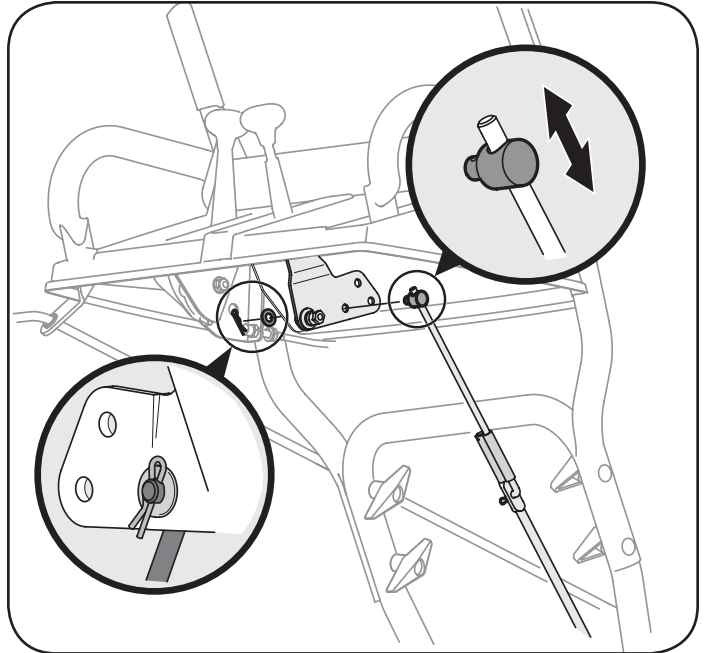

Figure 14
If the full range of speeds (forward and reverse) cannot be achieved, refer to Figure 14 and adjust the shift rod as follows:
1. Looking underneath the handle panel, note which of the three holes in the shift lever the ferrule is inserted into. Also note the direction of insertion. Then remove the internal cotter pin and flat washer from the ferrule and withdraw the ferrule from the shift lever. See Figure 14.
2. Place shift lever in sixth (6) position or fastest forward speed.
4. As necessary, rotate the ferrule up or down the shift rod until the ferrule lines up with the hole from which it was earlier removed. See Figure 14.